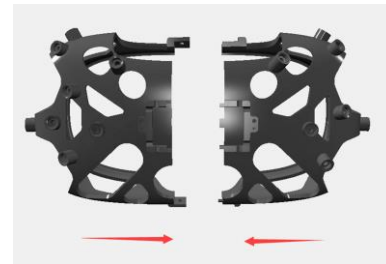
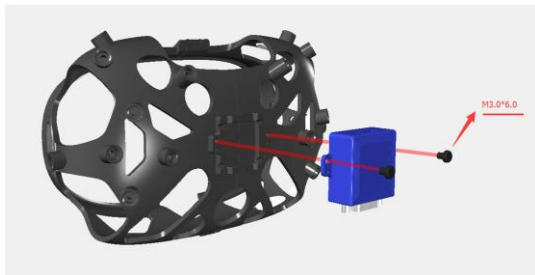

Figure 18 - The VIVE holder consists of two pieces that slide over the HMD from the side.
Figure 19 - Attach the IMU with the USB port facing upwards using the supplied (long) screws.
5. Follow the further steps as shown in Figure 18, Figure 19.